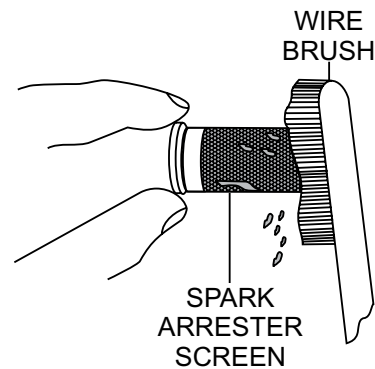

Figure 35. Cleaning The Spark Arrester
3. Carefully remove carbon deposits from the spark arrester screen (Figure 35) with a wire brush.